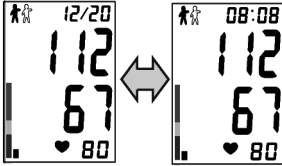

Fig. 12
- There will be a long beep following the accomplishment of measurement. The air in the cuff will deflate quickly and the blood pressure reading, pulse reading will show in the display. Moreover the measuring time will also display together in two screens alternately. At the same time, the '👤' will flash to remind the user to record the reading as Fig.12;